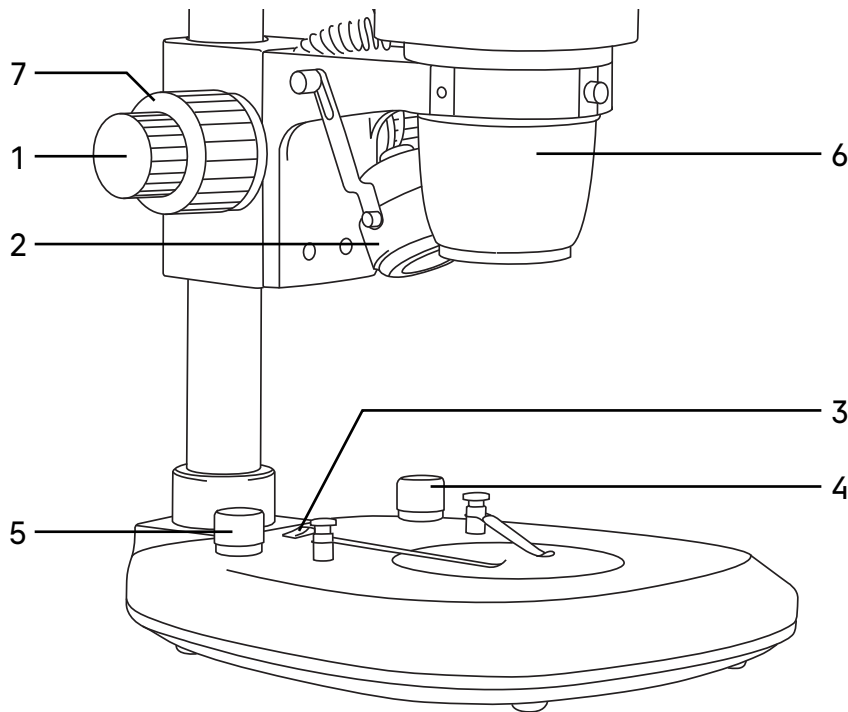

Fig. 2. Switching on the illumination
Turn the ON/OFF switch **3** (Fig. 2) to "-" position (ON). Transmitted light and reflected light illuminators are switched on.
For the reflected light microscopy, the illuminator **2** (Fig. 2) is used, and its light intensity is adjusted by the knob **5** (Fig. 2). For the transmitted light microscopy, the illuminator brightness is adjusted by the knob **4** (Fig. 2).
Before switching off the microscope, rotate the knobs **4** and **5** (Fig. 2) to the minimum.
Use the ring light if you need shadow-free lighting to observe a specimen. The ring light is mounted on the objective **6** (Fig. 2).
Rotate the knobs 1 and 7 (Fig. 2) to move the focusing mechanism so that the distance between the specimen and the objective approximately corresponds to the working distance of the objective according to the specifications given in Table 2.
When using high magnification, use the fine focusing knob 1 (Fig. 2) for accurate adjustment.
With properly adjusted tension, the microscope head does not lower under its own weight. If you need to adjust the tension of the coarse focusing, hold the left coarse focusing knob 7 (Fig. 2) with one hand and rotate the right knob with the other hand to adjust the tension. By rotating it counter-clockwise, you loosen the tension, and by rotating it clockwise, you tighten it. Too high tension can cause inconvenience in the operation.